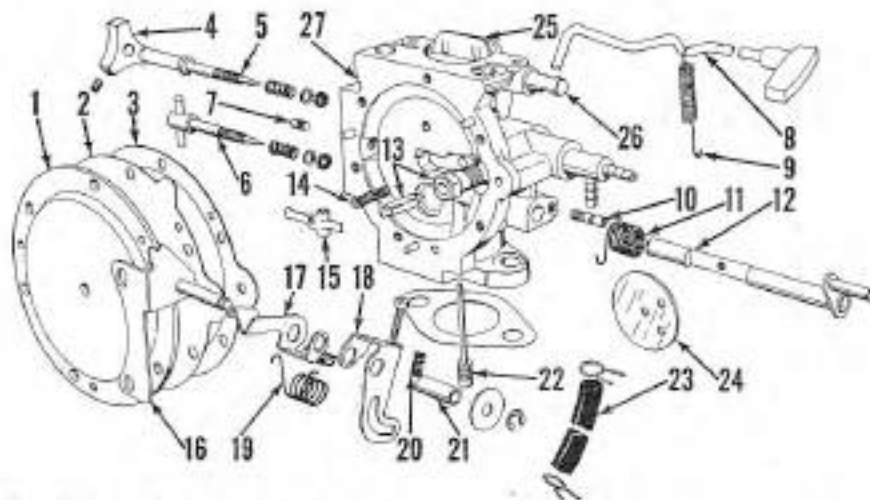

Fig. Mc45 — Exploded view of the Tiltson, diaphragm type carburetor used on some Fishing Scott models.
CARBURETOR. Fishing Scott models use either a Tiltson model HC-8AX, diaphragm type carburetor as shown in Fig. Mc45, or a Marvel-Schoeller model SUM float type carburetor shown in Fig. Mc47. Fleet Scott
Normal initial carburetor adjustments are 1 turn open for the high speed adjusting needle (5—Fig. Mc45) and 3/4-turn open for the slow speed adjusting needle (6). Fuel adjustments must be made under load when motor is warm.